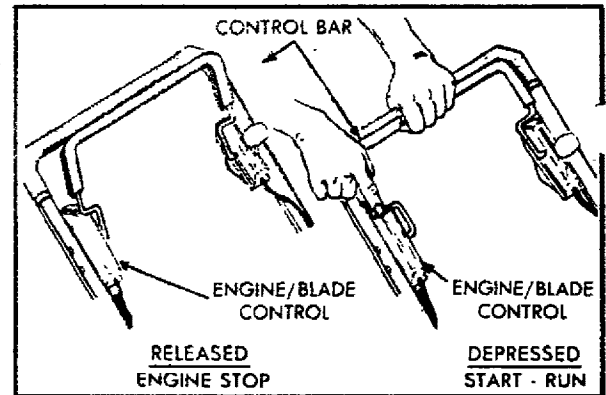

FIG. 15
Your mower is equipped with an engine blade control, attached to right side of upper handle and requires no assembly or adjustment (See Fig. 15).
6. Holding the control bar in depressed position, with your right hand push in on the engine start button (See Fig. 15). As the engine begins to start, release the starter button. Engine will stop when the control bar is released.
8. To stop engine, release the control bar (See Fig. 15).
NOTE: The control bar must be held in "Depressed" position to keep engine running - when control bar is disengaged the engine will automatically stop (See Fig. 15).